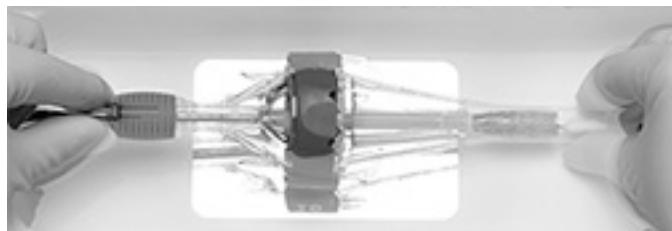

Figure 24
17. While holding the capsule guide tube stationary, advance the inflow cone to crimp the inflow portion of the bioprostheses frame until the outflow cone contacts the capsule guide tube (Figure 24). During this step, the outflow cone contacts the locking collar component and moves the locking collar to the proximal end of the capsule guide tube.